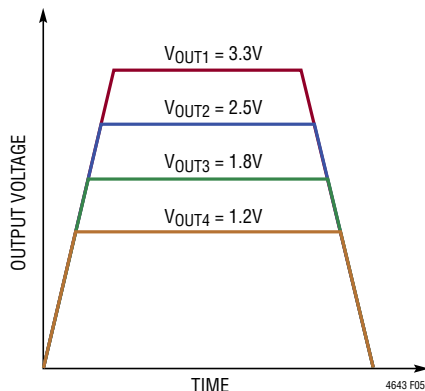

Figure 5. Output Coincident Tracking Waveform
The coincident output tracking can be recognized as a special ratiometric output tracking which the master's output slew rate (MR) is the same as the slave's output slew rate (SR), as waveform shown in Figure 5.